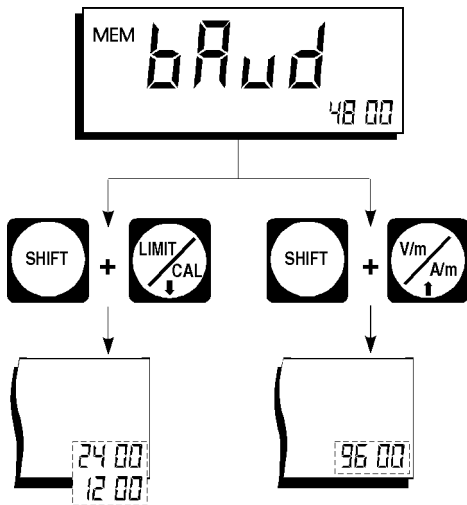

Figure 4-29 Altering the baud rate (starting with 4800 baud)
- Press SHIFT+ ↓ (↑). The next lower (higher) baud rate should appear in the small display (Figure 4-29). Continue pressing SHIFT+ ↓ (↑) to activate each available baud rate in turn.